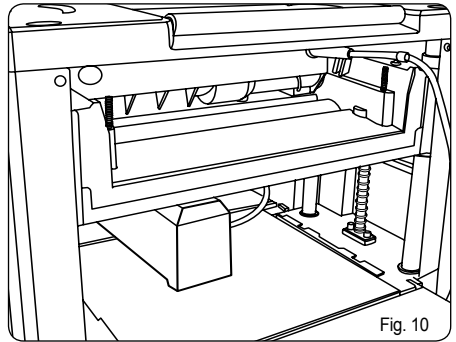

Fig. 10
- Adjust height nut up or down as required to suit gauge block. (Fig.10)